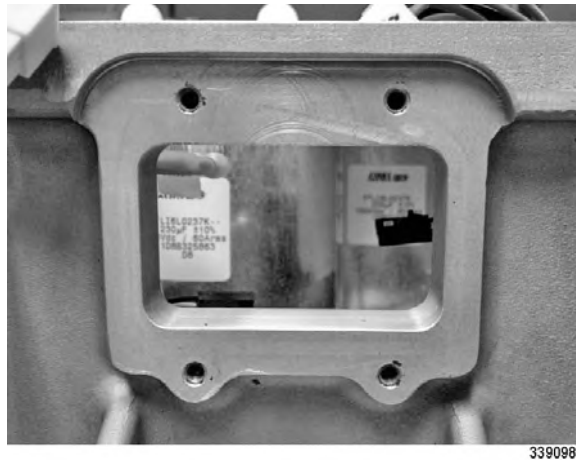

Figure 8. EMI Gasket Surface
4. Ensure the EMI gasket mating surface on the DPIM housing is clean (refer to Figure 8).